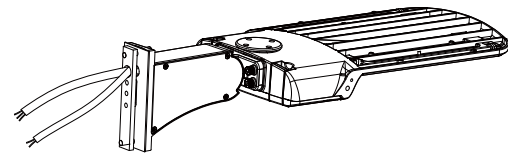

Figure 2
- Attach the bracket to the fixture, close the side lid, and securely tighten it (Figure 2).